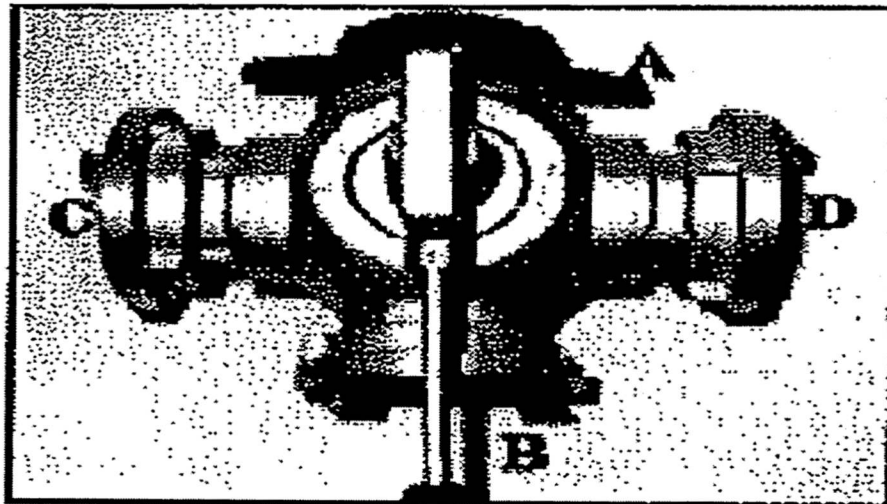

Figure 1
- Prior to beginning operations, look at the HAV and note the lettering configuration on the top of the valve. All NFD valves will have letters on the top of the valve indicating the direction of the flow of water based on the handle position. Some valves also have tags that indicate to fire, to pump, and from pump. Not all valves have the tags so it is important to understand the lettering diagram. Note the lettering of the ports. (Figure 1)